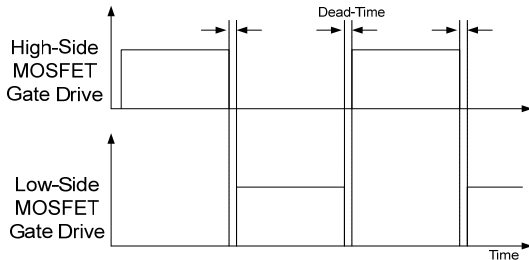

Figure 18. MOSFET Gate Drive Signals
1. Basic Operation: FSFR-HS series is designed to drive high-side and low-side MOSFETs complementarily with 50% duty cycle. A fixed dead time of 350ns is introduced between consecutive transitions, as shown in Figure 18.